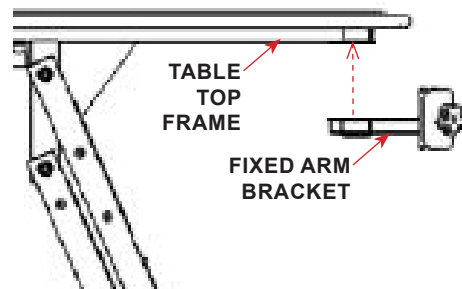

FIGURE 2.4 - Fixed Arm Bracket
STEP 1: Secure the fixed arm bracket to the underside of the table top frame using the hardware provided. See FIGURE 2.4